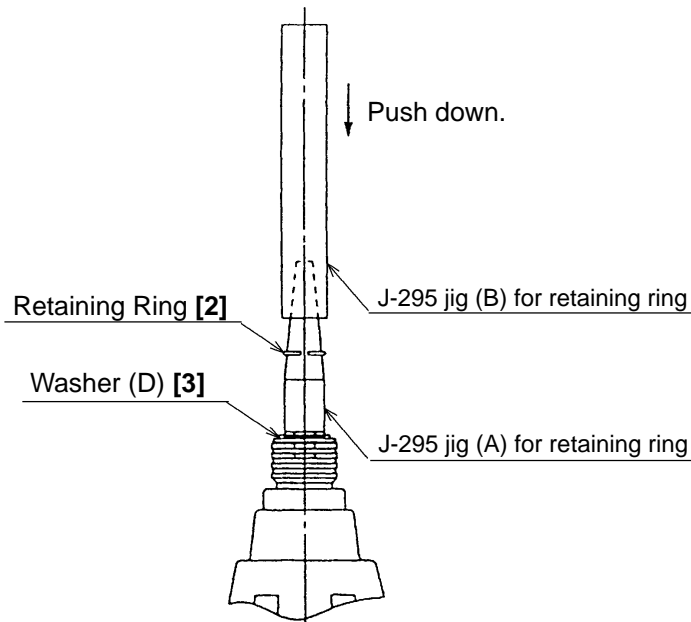

Fig. 8
(5) Reassembly of the Guide Sleeve [5]
Insert the Steel Ball D3.5 [8] into the hole of the Anvil (B) [9]. Mount the Guide Sleeve [5], the Guide Spring [4] and Washer (D) [3] in sequence. Mount the Retaining Ring [2] into the groove of anvil (B) using J-295 jigs (A) and (B) for retaining ring as illustrated in Fig. 8.